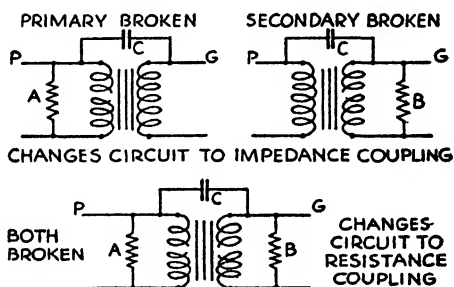

FIG. 62
A Simple Transformer Repair: If one or both windings of an audio transformer have gone bad, a temporary repair can be made by following the connections indicated in Fig. 62. If on test (see Chapter IV), the primary circuit proves to be open, connect a 100,000-ohm resistor (A) across the P and B terminals of the primary winding and a fixed condenser (C) across the P and G terminals. The fixed condenser should have a capacity of from .006 to .01 microfarads. Try several and retain the one that gives the best results.